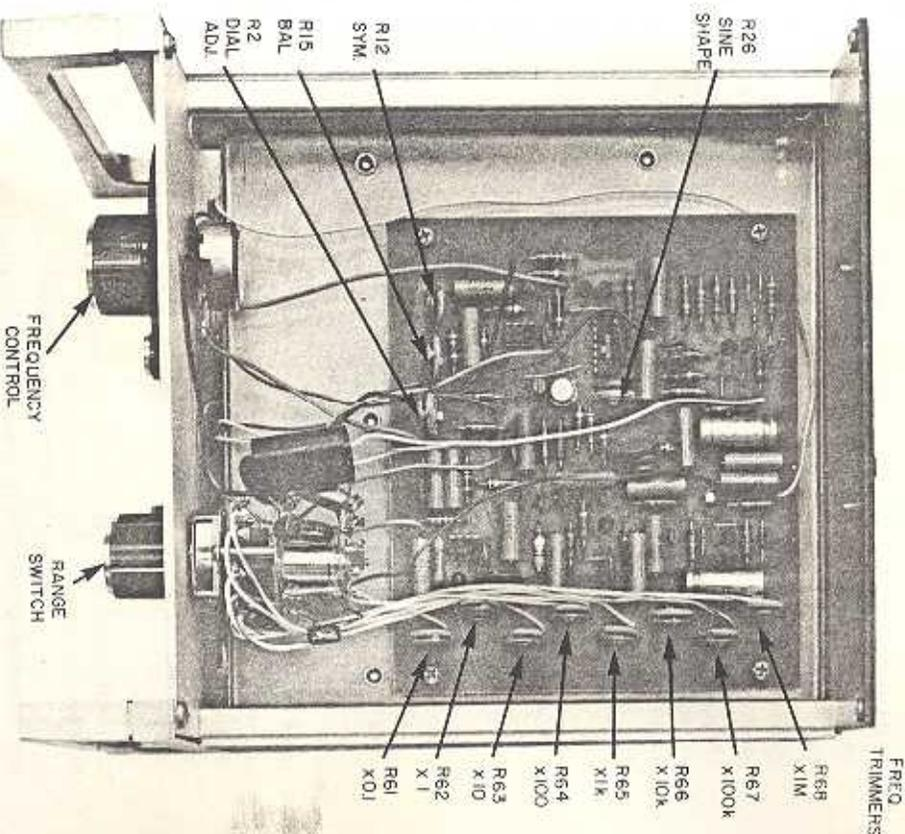

Fig. 37 Top view of chassis
3. Adjust R12 so that the waveform is exactly symmetrical (i.e. the rising portion is the same duration as the falling portion), Fig. 37.